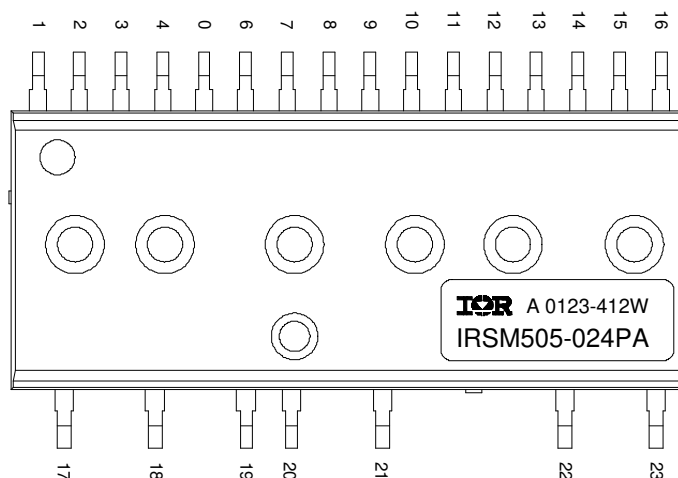

Figure 1: Switching Parameter Definitions
- **July 2014 - Corrected Figure 1 to show positive logic**